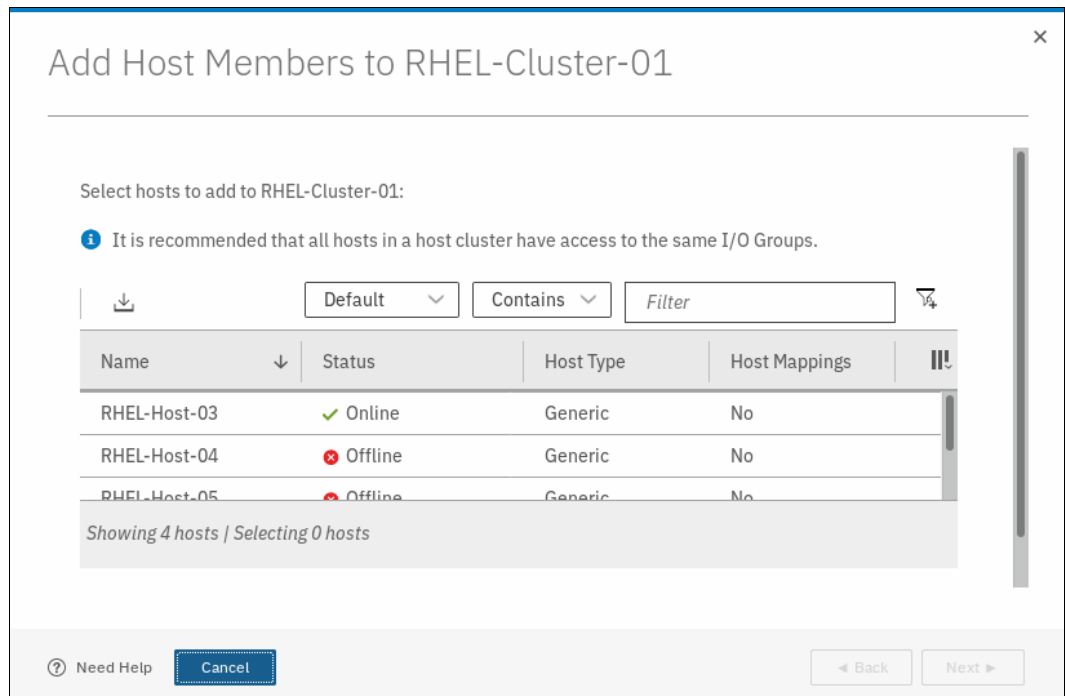

Figure 5-77 Host selection window
2. Click **Add Host** and a selection window opens, as shown in Figure 5-77.